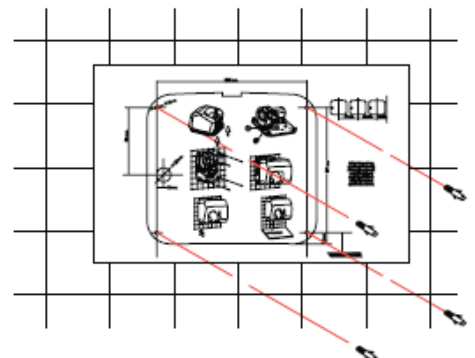

Fig. 6
1. Drill four Ø 8 mm (Ø 0.31") holes using the supplied template. Clean up the holes once they have been made. Insert the fourplugs until they are flush with the surface (see figure 6).